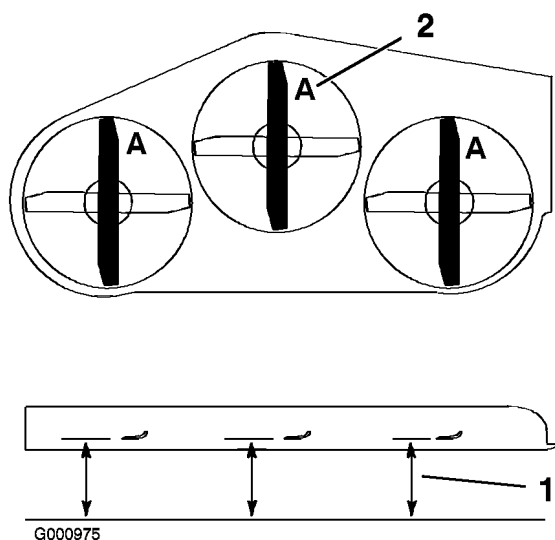

Figure 63
3. With the machine on level surface, position one blade front-to-rear (Figure 63). Measure at **A** and from level surface to the cutting edge of the blade tips (Figure 63).